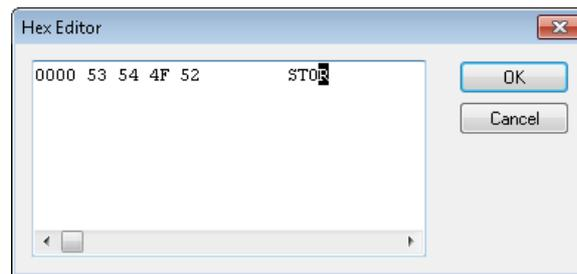

Fig. 6-36 Entering the **STOR** command.
6. Enter the uppercase letters **STOR** on the right side (Fig. 6-36).